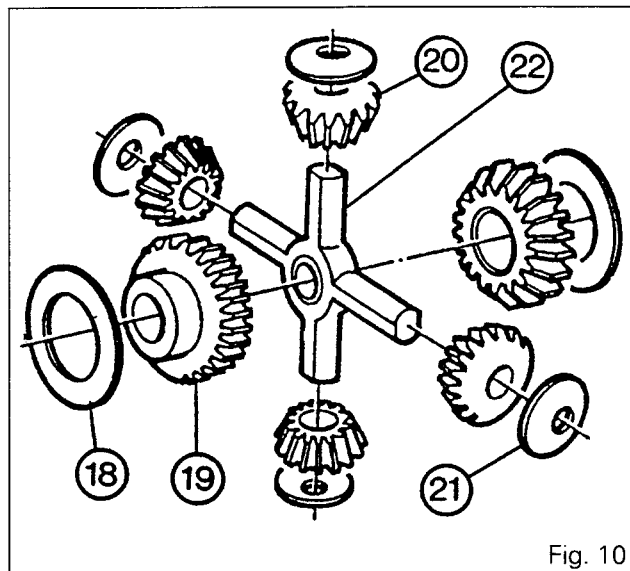

Fig. 10
48. Remove the washers (18), the sun gears (19), the planetary pinions (20), the washers (21) and the cross joint (22) (Fig. 10).